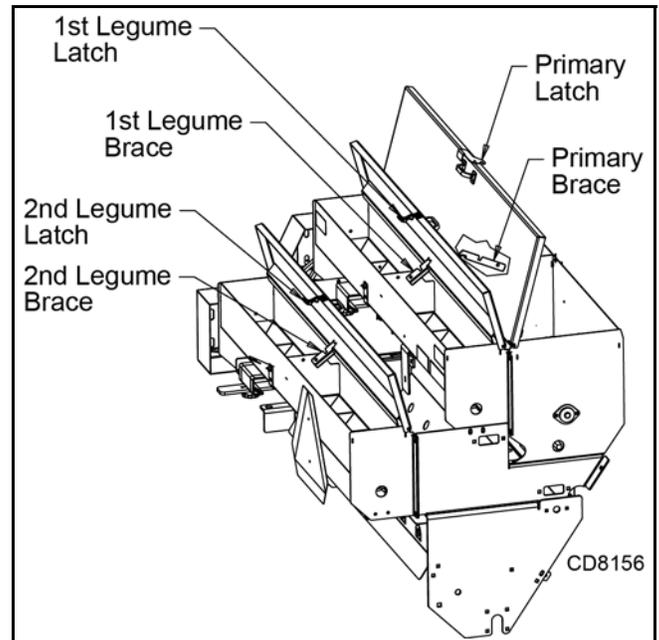

Figure 11. Primary and Legume Braces and Latches
2. Open the seed box cover and rotate the brace to hold the cover up while filling the seed box. Place brace point in the cover spill guard notch. See Figure 11.